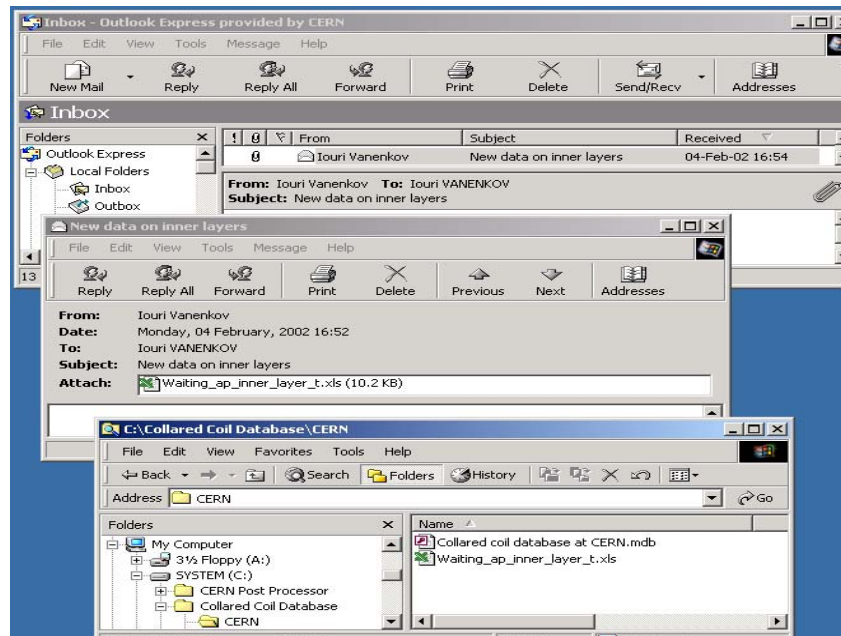

Figure 5
1. At CERN, the Responsible receives the E-mail named as “New data on poles” (figure 5) with an Excel file “Waiting_ap_pole_table.xls” as an attachment. This file contains the data on new pole. The Responsible has first to save this file under the C:\Collared Coil Database\CERN\folder as it shown below (the procedure is written in the body of this e-mail).